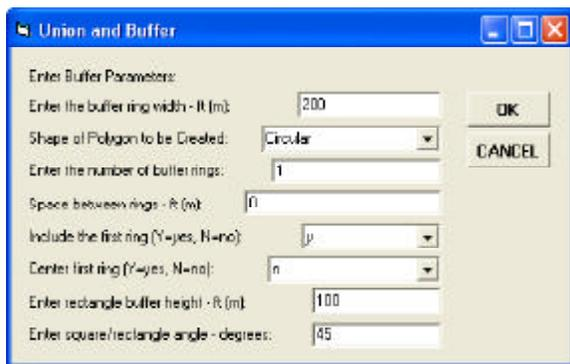

Figure 5
- b. *If point features have been selected* The multi-input dialog box of Figure 5 is displayed. In this case, the user should branch to the **Point Buffer** subsection below.